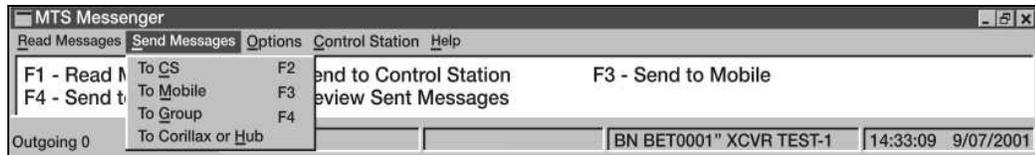

Figure 3-33. Send Messages
- (1) Select the send messages pull down menu or use the F2, F3 and F4 function keys on the keyboard (see Figure 3-33).